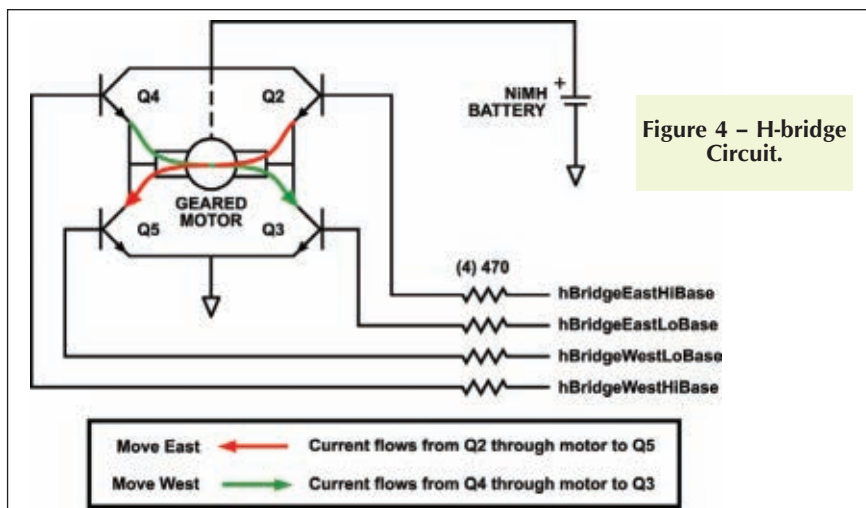

Figure 4 - H-bridge Circuit.
■ FIGURE 4. RGB Demo.
The H-bridge circuit controls the geared motor operation that moves the solar panels. Due to lack of space, I didn't have a chance to tell you how it works last time, but since it's an integral part of the Sun Tracker circuitry I'll do it now. The H-bridge circuitry consists of four NPN transistors and four 470 ohm base resistors that, together, control the back and forth motion of the motor (Figure 4). It works like this: The firmware uses four microcontroller ports with the following labels to control the ON-OFF states of the four NPN transistors:
If you don't see how the H-bridge works at first, look at **Figure 4** again and it will begin to make sense. It took me a couple of mental tries the first time I came across this circuit, so if you're new to this design give it another look. You can use it with modifications like substituting MOSFETs to replace the regular transistors in high-current, high-voltage motor controller designs. So, it's worth understanding.